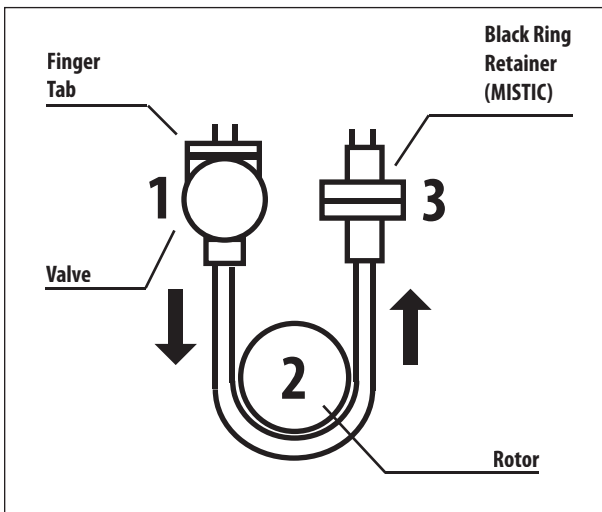

Figure 4.
3. To load Pump Set (refer to Figure 4):
- Grasp finger tab on valve and insert into left pocket (1).
- Grasp black ring retainer and gently stretch tubing around rotor (2). Pull up on retainer and insert into right pocket (3).